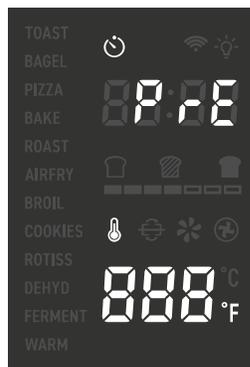

Figure 2.1
1. When you start the cooking function by pressing **START/CANCEL**, preheating will start automatically. The **START/CANCEL** button will light up, and the display will show "PrE". [Figure 2.1]